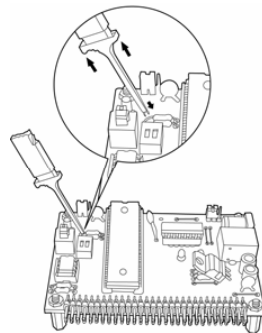

Fig. 2-9
- 3-3. Place the metal prongs on a metal connector on the motherboard and release the fingers so that the prongs grip the metal connector (Fig.2-9).